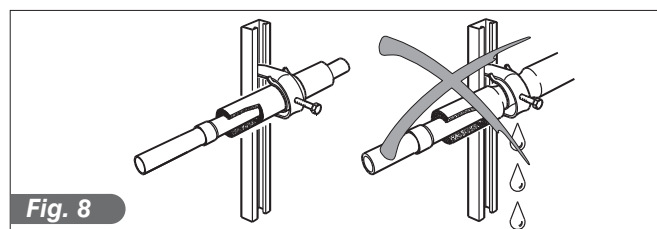

Fig. 8
- 2) Bracket clamping on insulated tubes (Fig.8).